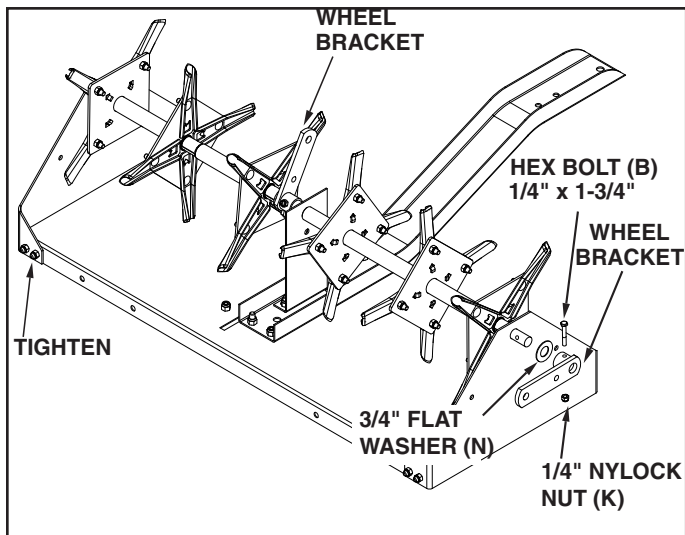
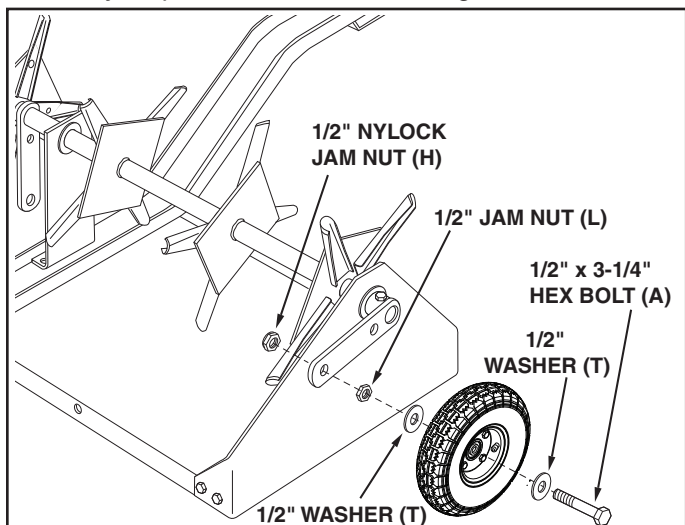

FIGURE 8
FIGURE 9
- Standing behind the tray, place the long end of the shaft through the end plate on your right as shown in figure 8. Place the other end of the shaft through the end plate on your left. Make sure the bent end of the middle brace rests flat inside the tongue (5). **Make sure the end plate on your left is perpendicular to the tray, and tighten the bolts and nuts that attach the end plate to the tray.**
- Assemble a 3/4" flat washer (N) and a wheel bracket (2) onto each end of the shaft. Turn each wheel bracket to point in the direction shown below. Secure each wheel bracket with a 1/4" x 1-3/4" hex bolt (B) and 1/4" nylock nut (K). Tighten. See figure 8.
- Assemble a wheel to a wheel bracket as shown in figure 8. Use a 1/2" x 3-1/4" hex bolt (A), two 1/2" washers (T), one 1/2" hex jam nut (L), and one 1/2" nylock jam nut (H). Adjust the nuts so that the wheel is held securely with minimum end play but will spin freely. Repeat on other side. See figure 9.